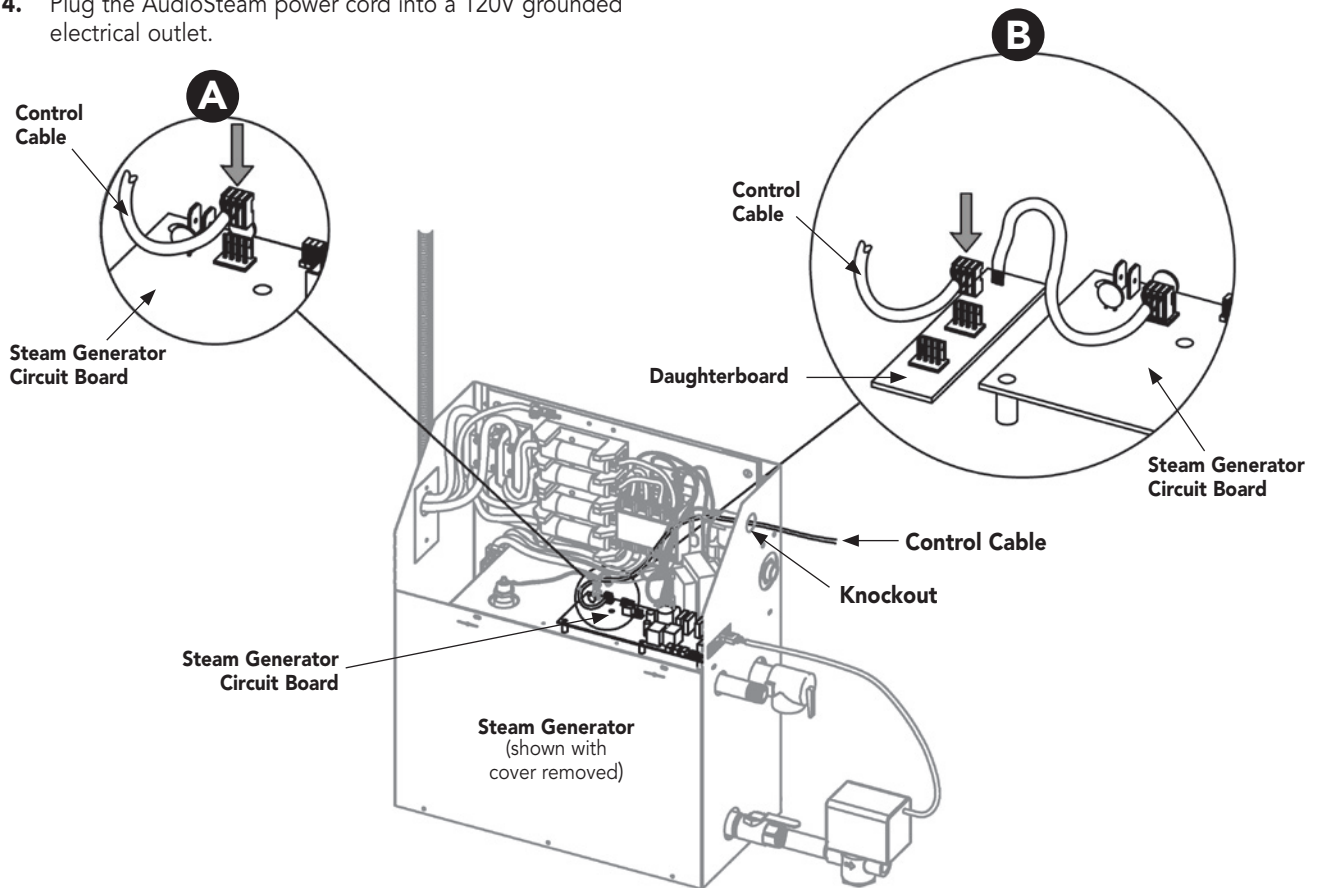

Figure 13
3. Connect the control cable directly to the steam generator's circuit board (A in Figure 13), OR if an additional accessory is installed in the steam generator, connect the control cable to the supplied daughterboard (B in Figure 13).